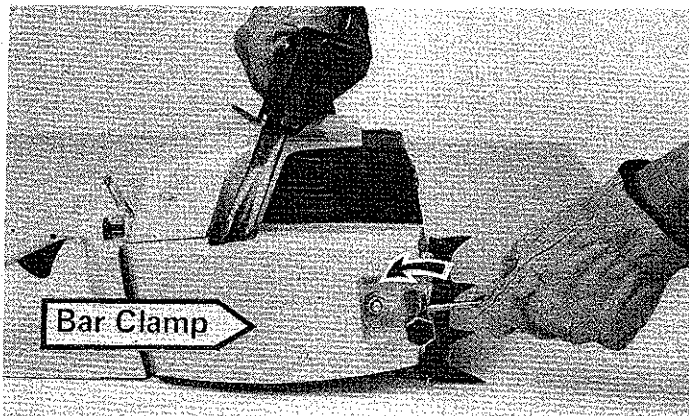

Figure 1
1. Remove the bar mounting nuts. Using the screwdriver packed with your saw, loosen the nuts by turning counterclockwise. FIGURE 1.